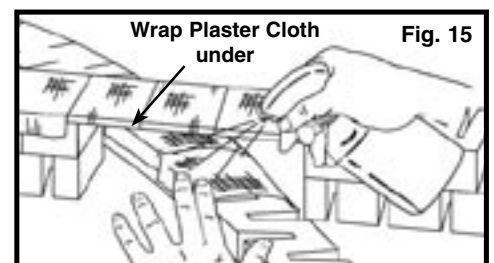

Fig. 15
- Wrap Plaster Cloth snugly around bottom of Overpass (Fig. 15).
- Under Overpass, lay a dry strip of Plaster Cloth on lower Riser (Fig. 15).
- Mist with water from Scenic Sprayer, smoothing cloth in place. This method works well for all tight spots (Fig. 15). Let dry.